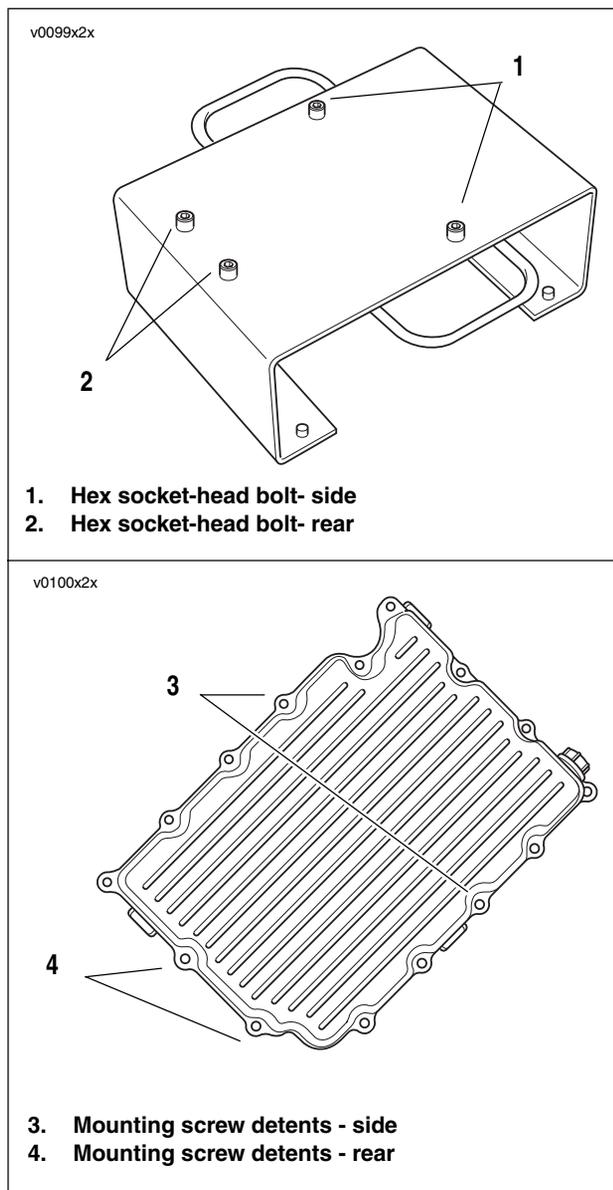

Figure 2-16. Engine Assembly Support Fixture Alignment
44. See Figure 2-16. Position ENGINE ASSEMBLY SUPPORT FIXTURE (Part No. HD-45317) under engine. Align the two hex socket-head bolts (2) at rear of fixture with mounting screw detents (4) at bottom rear of oil pan. Align the two separated hex head bolts (1) on each side of front of fixture with corresponding mounting screw detents (3) on sides of oil pan. Using scissors jack, lower motorcycle until engine oil pan screw detents rest on hex socket-head bolts.